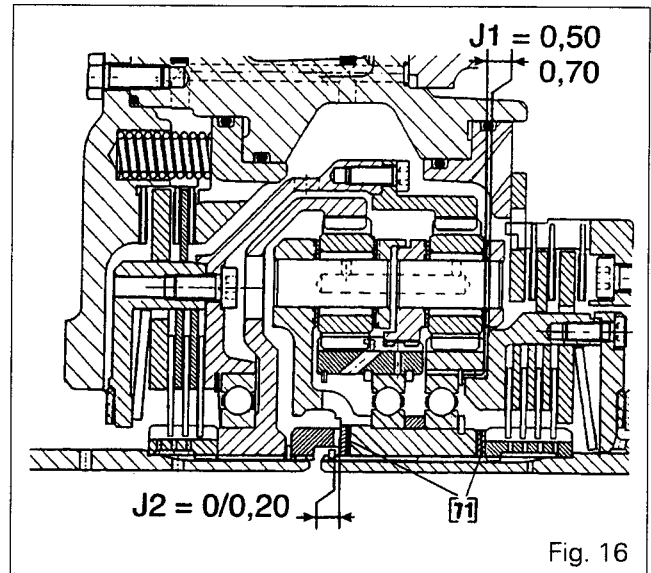
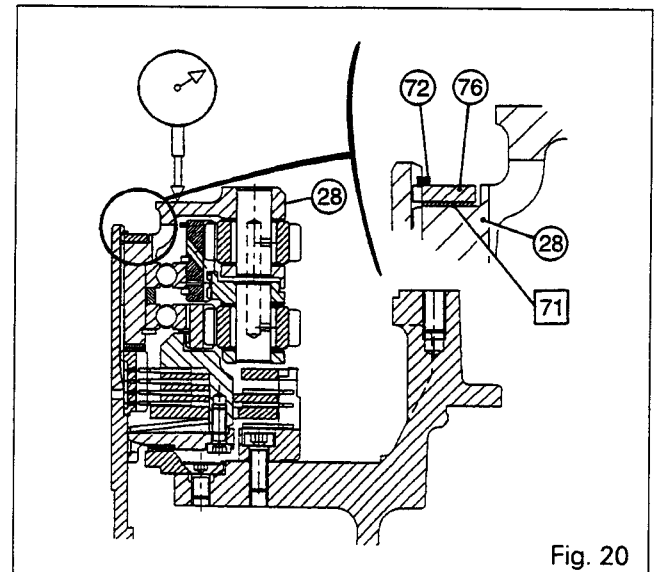

Fig. 16
Fig. 20
Shimming J1 (Fig. 16)
**Shimming J2 (Fig. 16)**
66. Position the sun gear (61) on the housing (59) and position the planetary carrier assembly on shaft (53). Fit the tab washer (76) and retaining gear (72).
67. Place the tip of a dial gauge as per Fig. 20 and check the play by moving the planetary carrier assembly vertically.
70. Fit the springs (65). Position the pressure plate (38), checking that the notches are aligned with the lugs on housing /42\.
72. Refit the sun gear (61) and the planetary carrier assembly, and compress with tool 3376920 M1.
73. Position the shims [71] selected in procedure 68 against the planetary carrier (28). Fit the tab washer (76) and retaining ring (72) (Fig. 20).